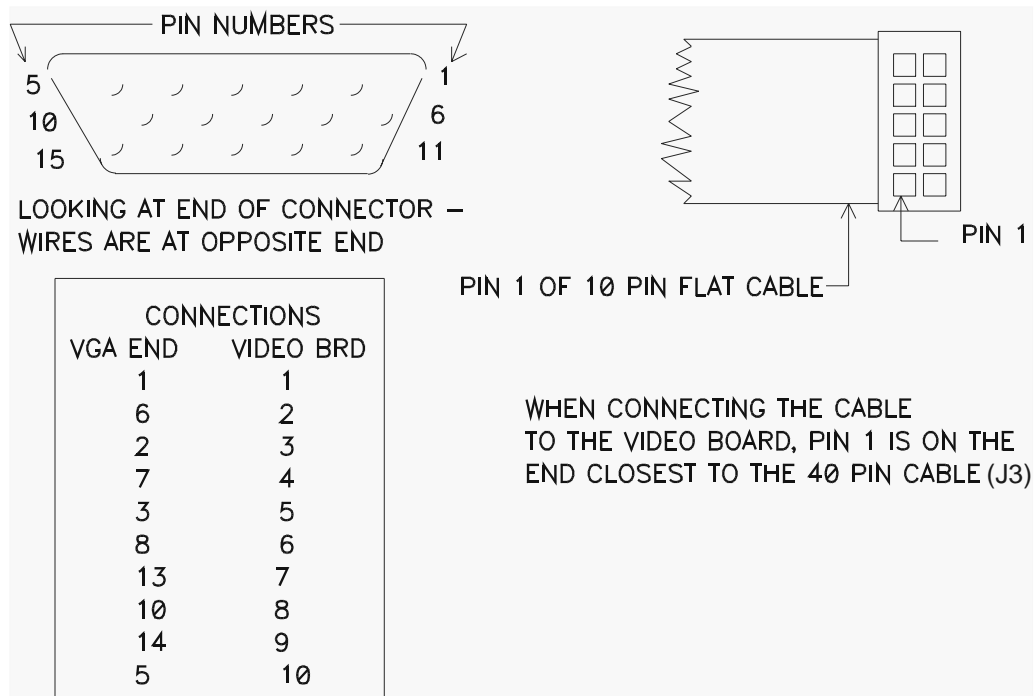

Figure 6-2 Video Display Interface Cable
- ◇ Using a video display interface cable, plug the PC Monitor into the PC104 video board 10 pin header. Be sure to position pin 1 of the 10 pin video adapter connector facing connector J3. (See figure 6-2 for pin configuration of display interface cable.)
Connect a standard VGA monitor to J7 of the video interface board of the SCS using a VGA display interface cable. (See figure 6-2).